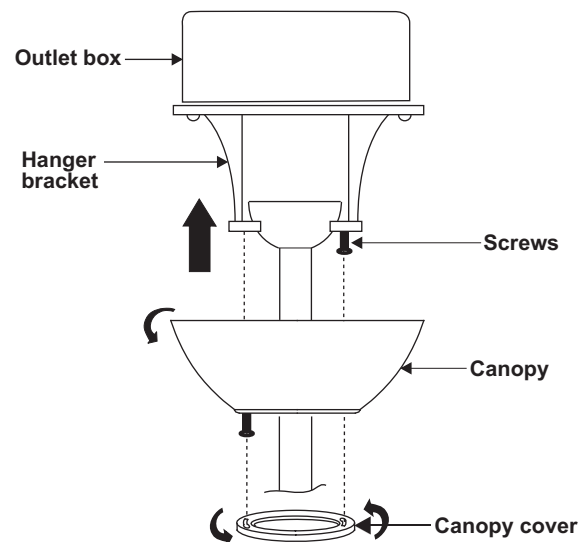

Figure 11
2. Slide the canopy up to hanger bracket and place the key hole on the canopy over the screw on the hanger bracket, turn canopy until it locks in place at the narrow section of the key holes. (Fig. 11)